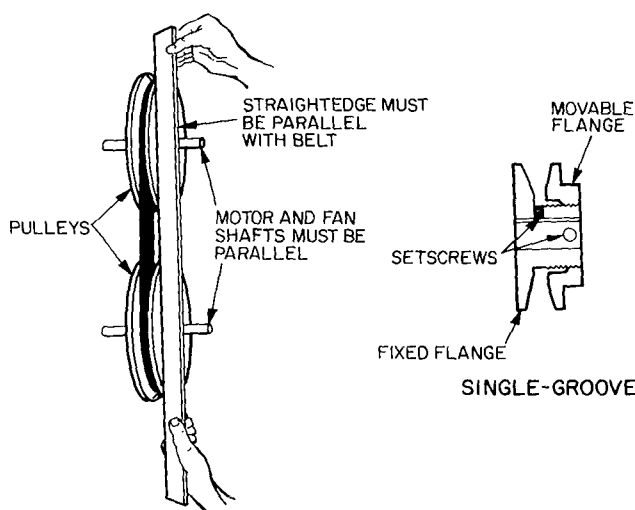

Fig. 11 – Evaporator-Fan Pulley Adjustment
3. Loosen movable pulley flange setscrew (see Fig. 11)